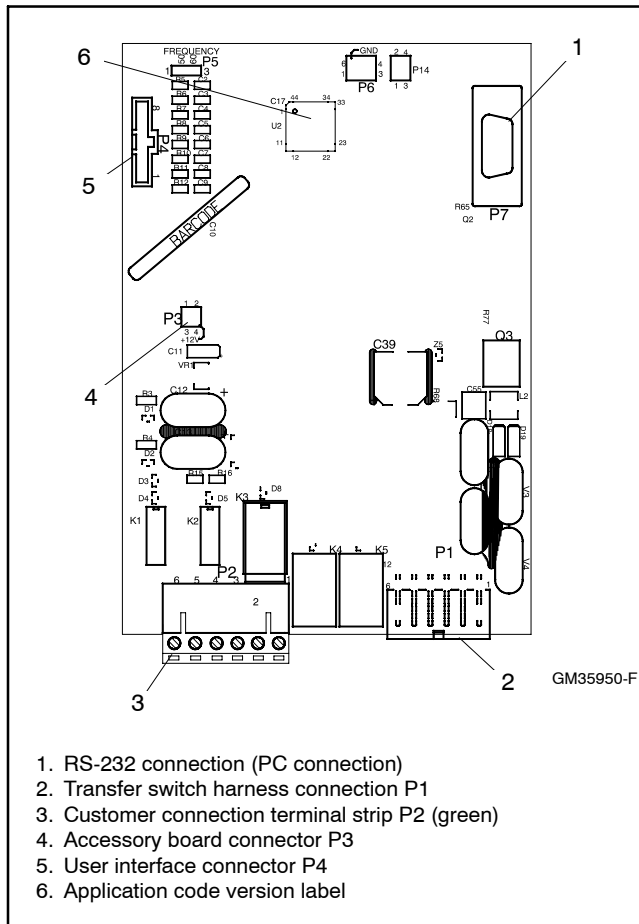
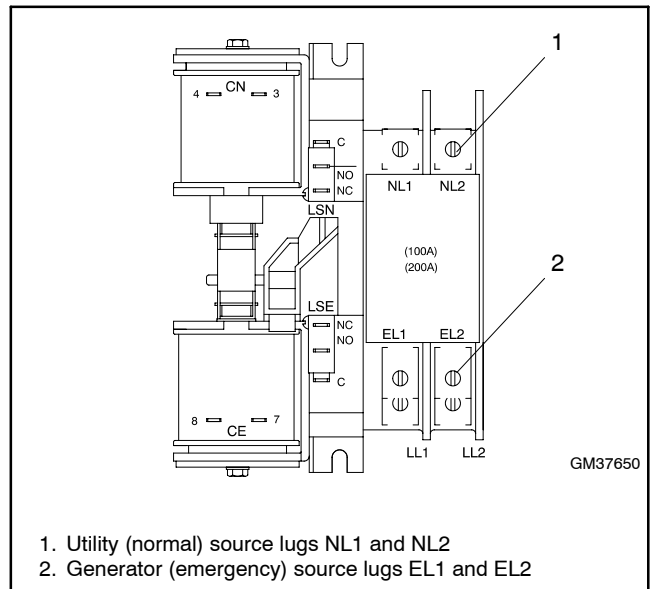
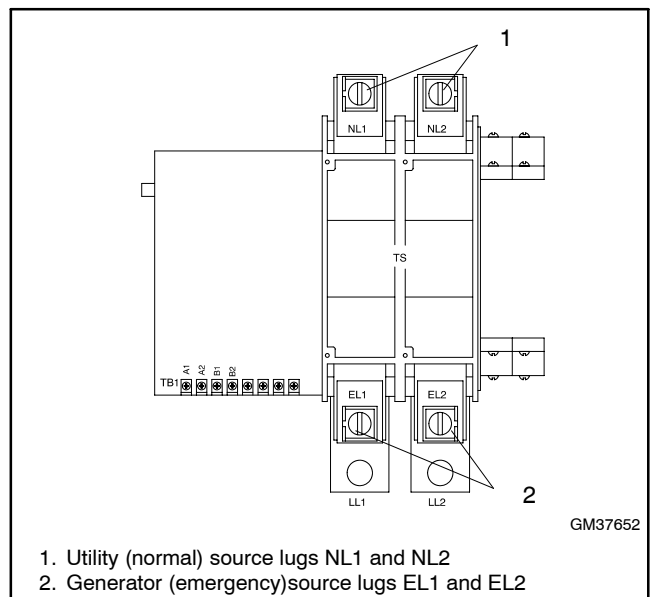

Figure 5-1 Controller Board Connections
Figure 5-2 Source Lugs, 100 and 200 Amp Models
Figure 5-3 Source Lugs, 400 Amp Models
Refer to Figure 5-1 through Figure 5-3 and the wiring diagrams in Section 6, as required.
2. Disconnect the transfer switch wiring harness from the P1 connector on the controller's main logic board. See Figure 5-1.
5. Use a voltmeter to check the utility source voltage and frequency to the transfer switch. See Figure 5-2 or Figure 5-3.
9. Use a voltmeter to check the generator source voltages and frequency at lugs EL1 and EL2. See Figure 5-2 or Figure 5-3.